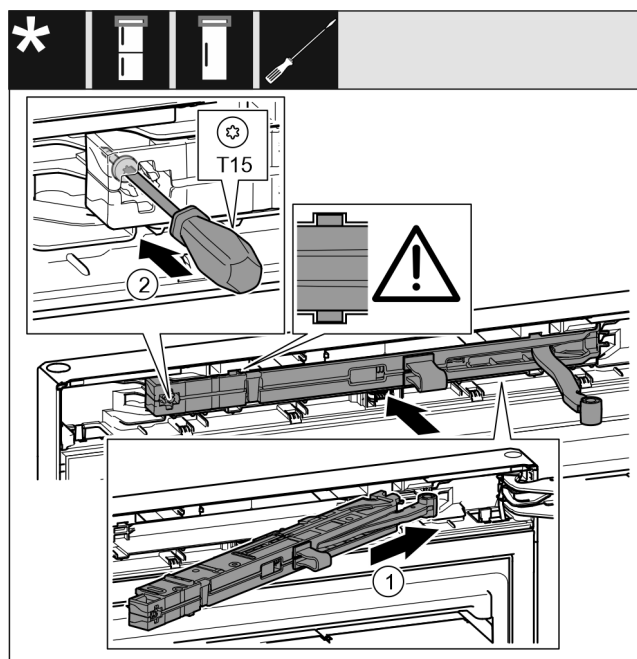

Fig. 23
- ▶ Slide the soft stop mechanism on the bearing bracket side at an angle into the recess as far as it will go. *Fig. 23 (1)*
- ▶ Tighten the screw using a T15 screwdriver. *Fig. 23 (2)*